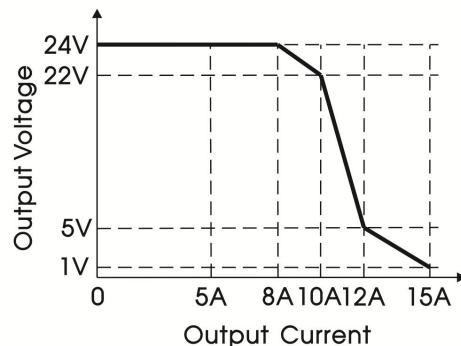

Figure 3
2.Figure 3 shows that the product will enter the overload state when the rated output current increases to 100%-150% I_o (TYP.), and enter the overcurrent protection when the current > 150% I_o (TYP.), and the output voltage will decrease with the increase of the output current. When the output current increases to a certain value, the product will enter the constant current mode;